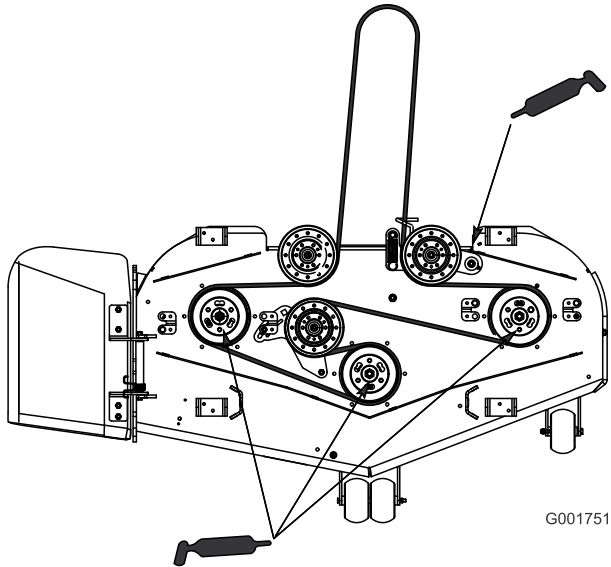

Figure 33
3. Grease the idler pulley pivot (Figure 33).
4. Grease the fittings on the 3 spindle bearings (Figure 33).